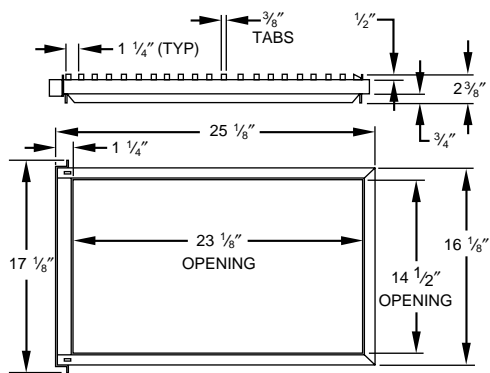

Fig. 1—Side Filter Rack
1. Refer to Fig. 1 and furnace Installation Instructions for size and location of side inlet opening.